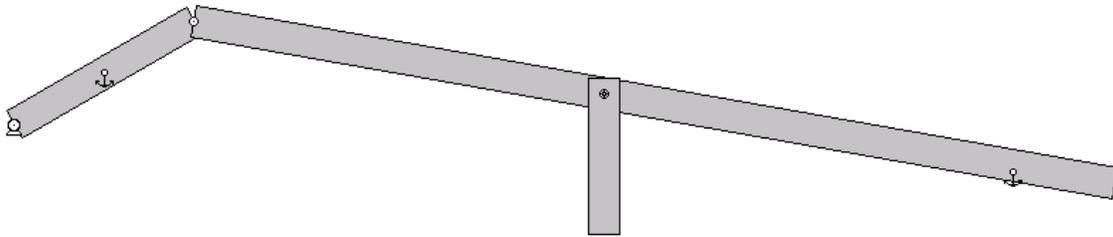

Figure 6
9. Select the two points drawn during the steps 6 and 7, and join them to get the view in Figure 6.